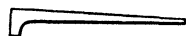

FIG. 17.
- 1 pennyworth of brads. (See Fig. 17.)